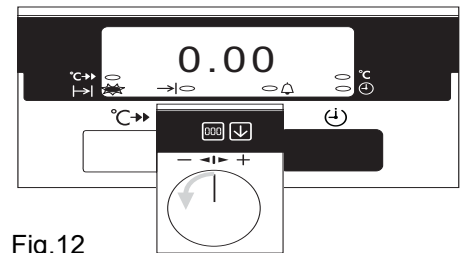

Fig.12
- i) To cancel an automatic programme press the Time Selector button until the 'Cook Time' () indicator neon flashes. Turn the main oven increase/decrease selector () until the display reads 0.00 as Fig. 12.